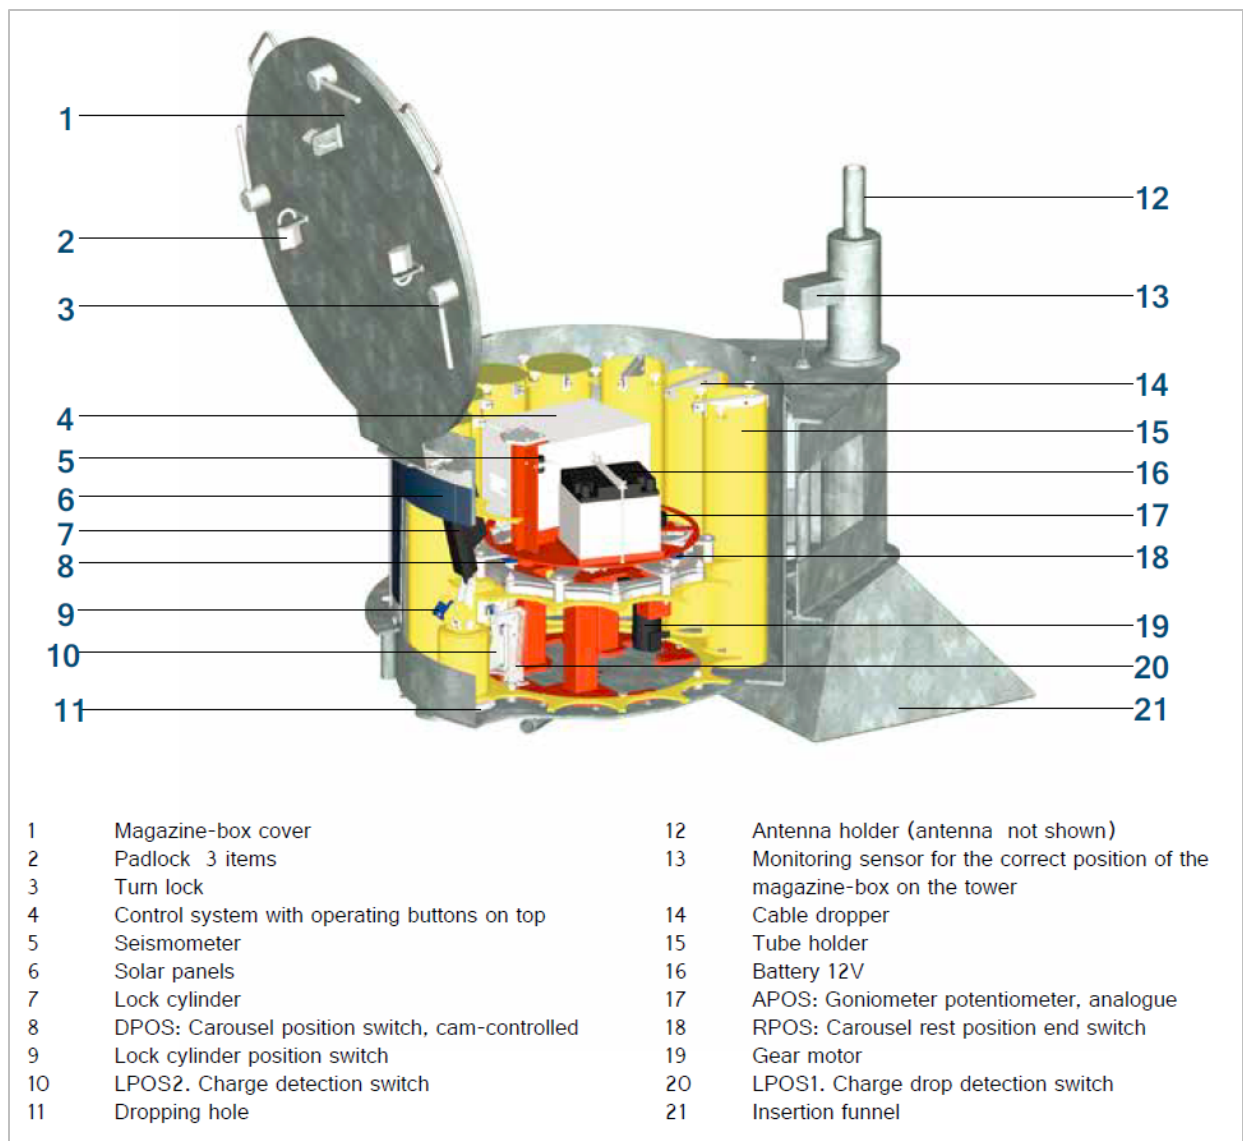

Figure 1. Components of the tower deployment box.
- The tower deployment box (Figure 1);